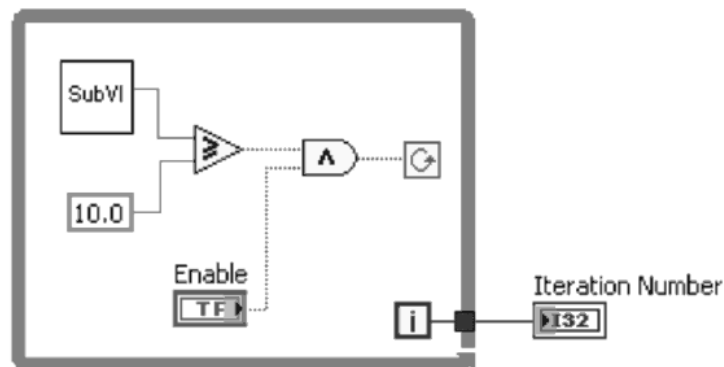

**Figure 4.6** (a) While Loop with conditional terminal as *Stop if True* and (b) While Loop with conditional terminal as *Continue if True*.
- •-The While Loop executes the sub diagram until the conditional terminal, and receives a specific Boolean value. The default behavior and appearance of the conditional terminal is Stop if True as shown in Figure 4.6(a).
- When a conditional terminal is Stop if True, the While Loop executes its sub diagram until the conditional terminal receives a TRUE value. You can change the behavior and appearance of the conditional terminal by right-clicking the terminal or the border of the While Loop and selecting Continue if True from the shortcut menu as shown in Figure 4.6(b).